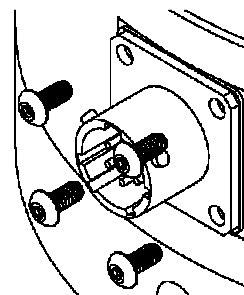

Figure 7 - Remove the #4-40 x 1/4'' Button Head Cap Screws
1. Remove the #4-40 x 1/4'' button head cap screws from the connector using a 1/16'' hex wrench as shown in Figure 7.